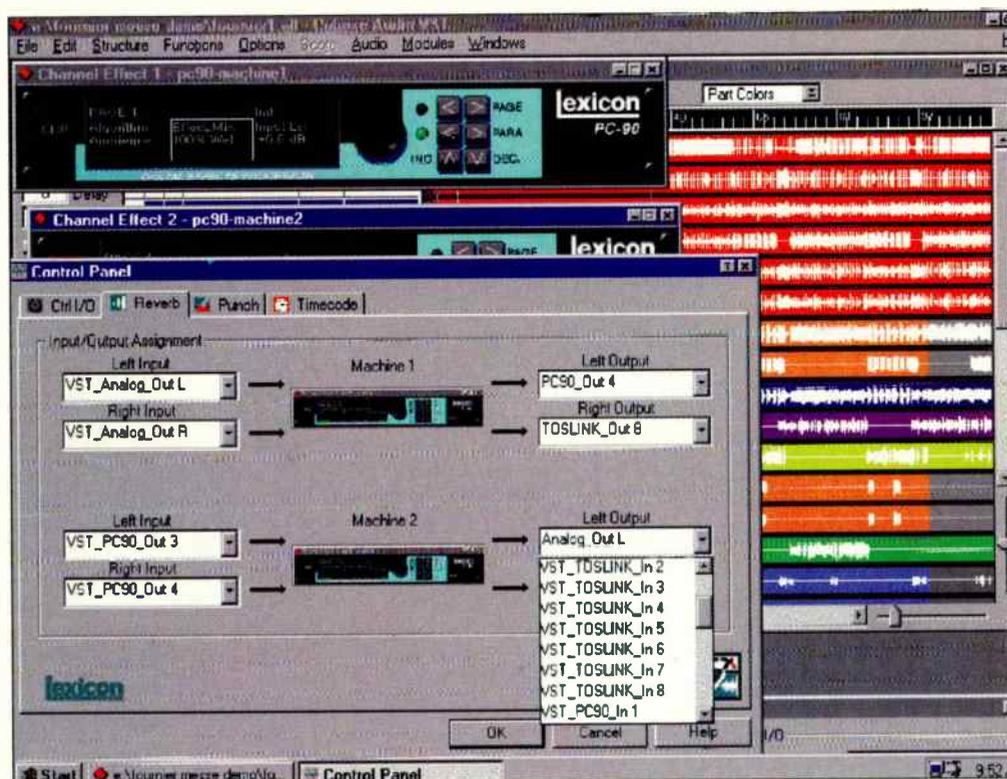

FIGURE 1: At Frankfurt, Lexicon's Studio was reading and writing multiple tracks with Cubase VST.
**Lexicon:** Progress on the *Lexicon Studio* continues apace (fig. 1); ETA is now June. Meanwhile, the *PCM81* signal